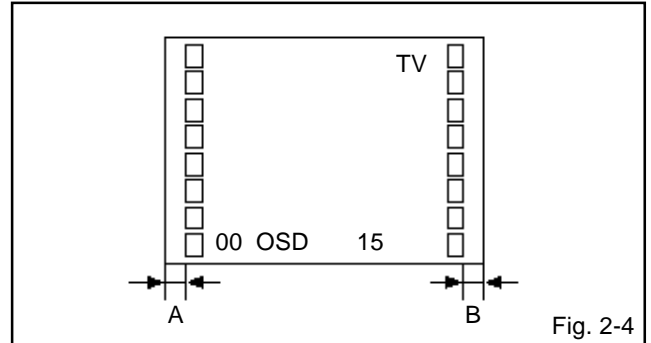

Fig. 2-4
2. Press the VOL. UP/DOWN button on the remote control until the difference of A and B becomes minimum. (**Refer to Fig. 2-4**)